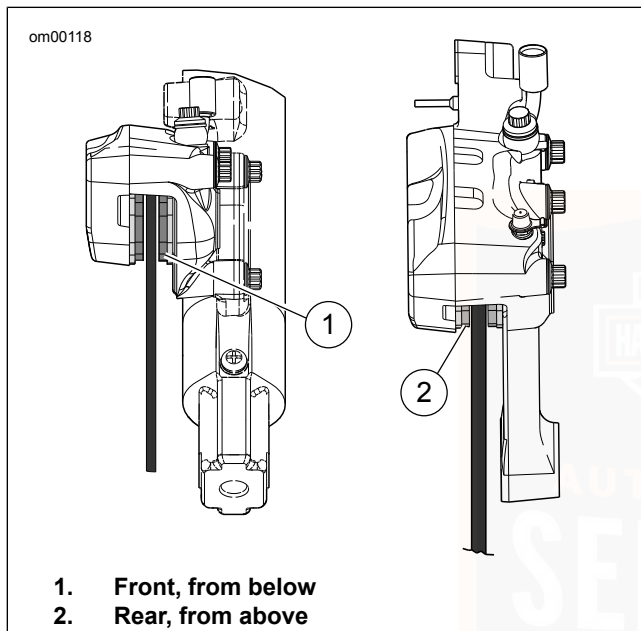

Figure 64. Brake Friction Material
2. See Figure 64. Measure the thickness of the brake pad friction material.